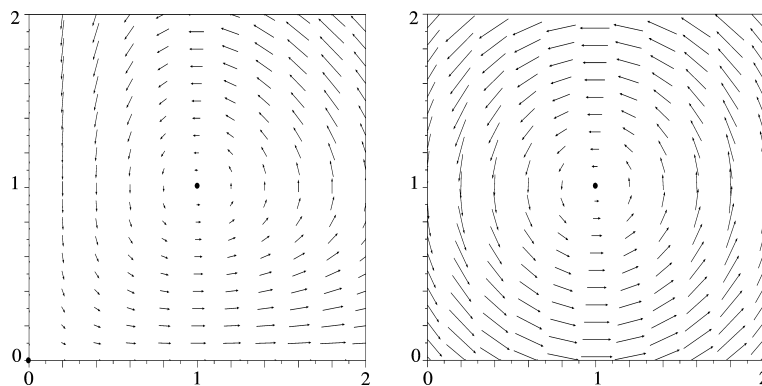

Figure 6.3: One of the two vector fields is associated with the Lotka-Volterra system. The other corresponds to its tangent system
- 2) Among the two vector fields of Figure 6.3, which one represents the field associated with the Lotka-Volterra system and which one corresponds to its tangent system ?